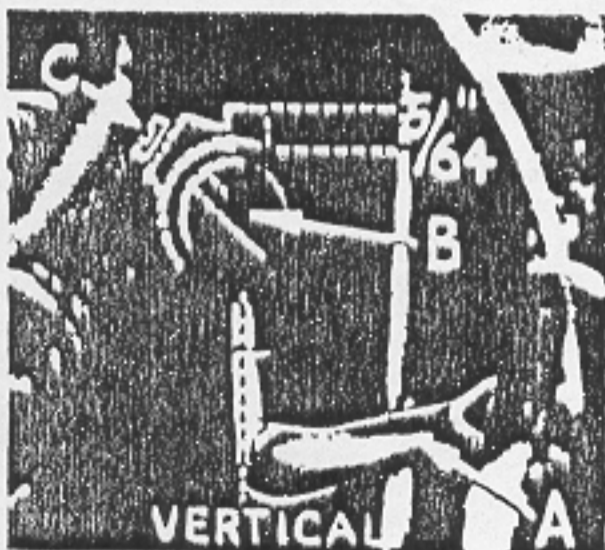

Fig. 8
Insert spreader (A, Fig. 8) in its holder. Screw (B) holds the spreader in its holder and permits spreader to be pushed in or out, or turned around its shank. Screw (C) on the collar holds spreader holder in the shaft, and allows the holder to be rotated or adjusted laterally.
**Preliminary Setting:** When spreader is at the right end of its stroke, spreader holder should be set to position the spreader shank about vertical (Fig. 8). The top end of the spreader shank should extend approximately  $5/64$  inch above holder (Fig. 8).